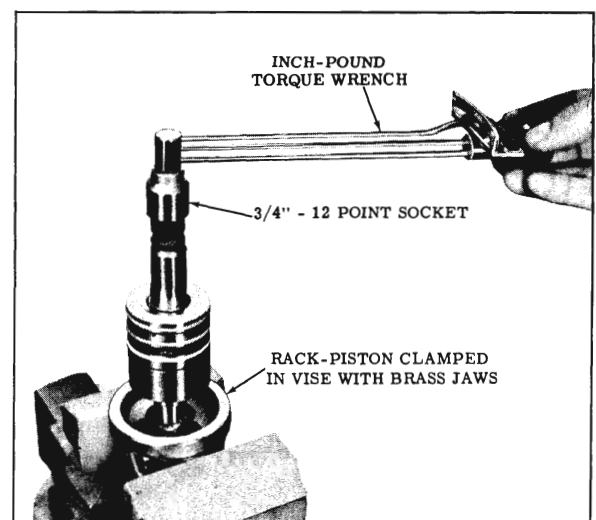

Fig. 4-58 Checking Preload
- d. Using a torque wrench and a 3/4" 12 point socket, check the preload while rotating the torque wrench in a 120° arc. The reading should be 1/16 to 5 in. lbs. (Fig. 4-58)